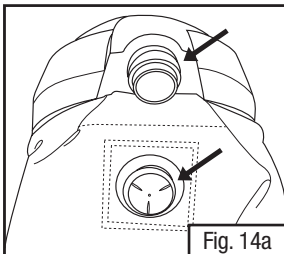

Fig. 14a
- Pull the large plastic tab off the air inlet of the headgear and release the suspension ratchet from the hole in the outer shroud (Fig. 14a).
- Insert air inlet of headgear through the hole in the large plastic tab on the outer shroud. Push tab fully onto the air inlet such that it is flush to the headgear shell. Push the ends of the plastic tab underneath shell lip. Insert head suspension ratchet through hole in shroud (Fig. 14a).